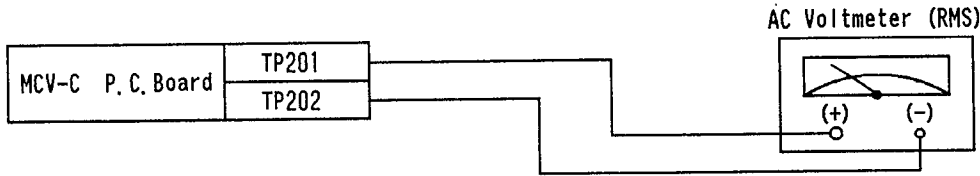

Fig. 8-7
1. Connect the equipment as shown in Fig. 8-7.